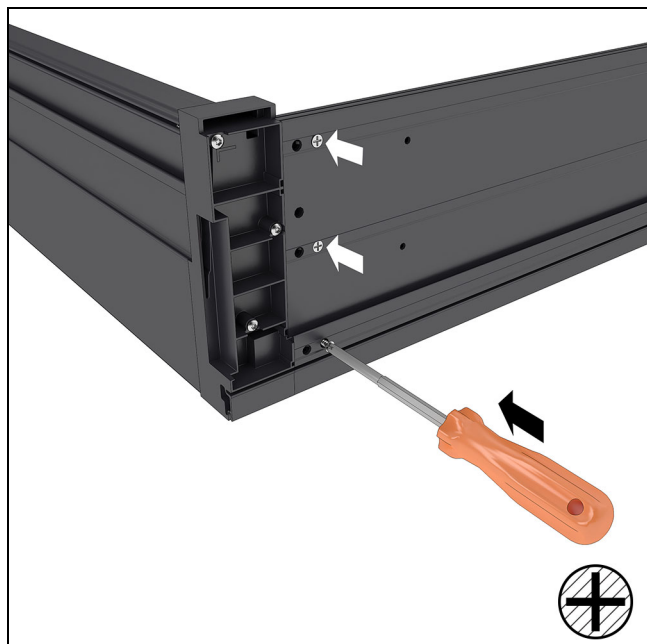

Figure 21
3. Fasten the jamb to the sill corner keys with three (3) # 8 x 3/8" flat head screws using a #2 hand screwdriver at the locations noted in Figure 21.